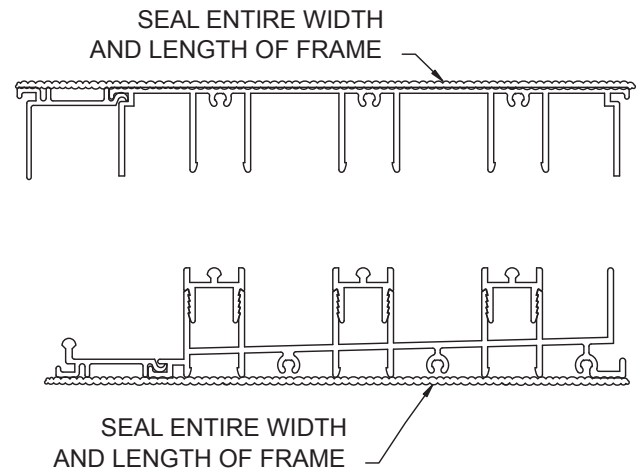

Figure 4
6. Once the frame fits into opening freely, seal under entire length of sill and all frame seams. Make sure to include where the frame sill and head meet the main frame jambs. (See Figure 4)